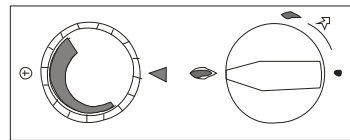

Figure 9-Main Burner Operation and Max. Gas Rate
3. Turn the GAS RATE ADJUSTING KNOB fully anticlockwise (until you reach the stop position) i.e. the maximum gas rate. See **Figure 9**.